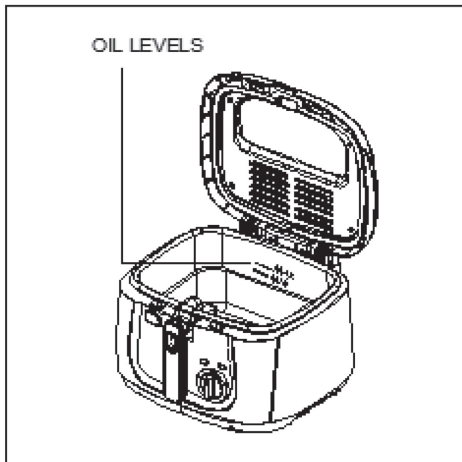

FIG. 7
2. Pour between 2~ 2.5 litres of oil into the fryer. The level of oil must be between the MAX and MIN level marked on the surface of the pot (FIG. 7).